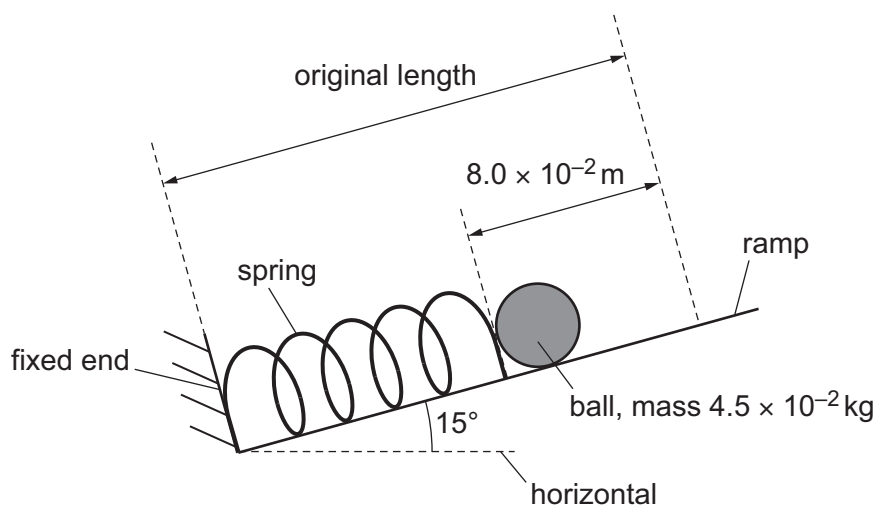

Fig. 4.1 (not to scale)
- 4 A pinball machine uses a spring to launch a small metal ball of mass $4.5 \times 10^{-2} \text{ kg}$ up a ramp. The spring is compressed by $8.0 \times 10^{-2} \text{ m}$ and held in equilibrium, as shown in Fig. 4.1.